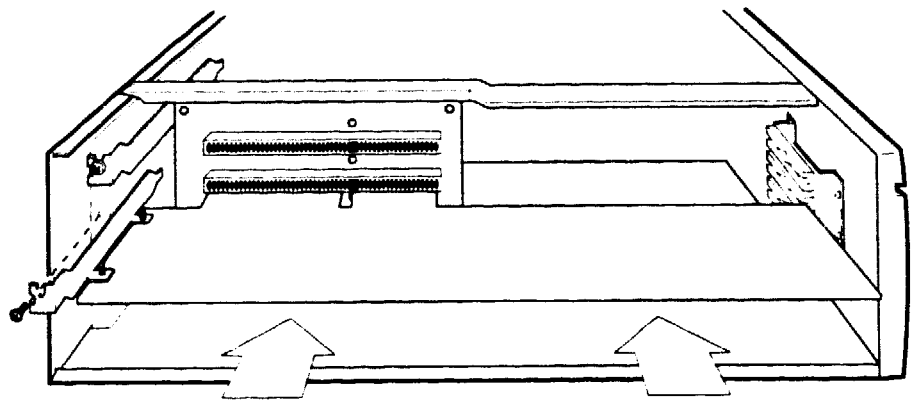

Figure 6.6: Adapter Card Installation
- 3 Having made sure that the rear of the adapter card (that is, the end with the metal bracket) is facing the rear of the computer, carefully align the adapter with the expansion slot. For a full length adapter card, also ensure that it is aligned with the correct card guide on the opposite side of the computer. (see Figure 6.6)